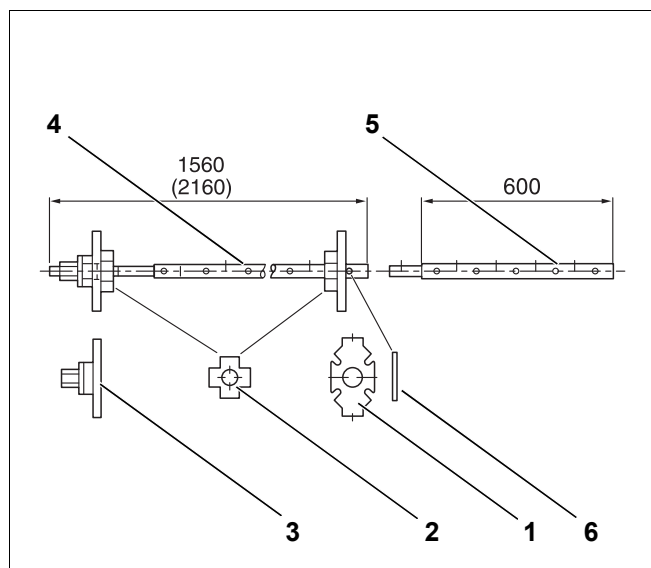
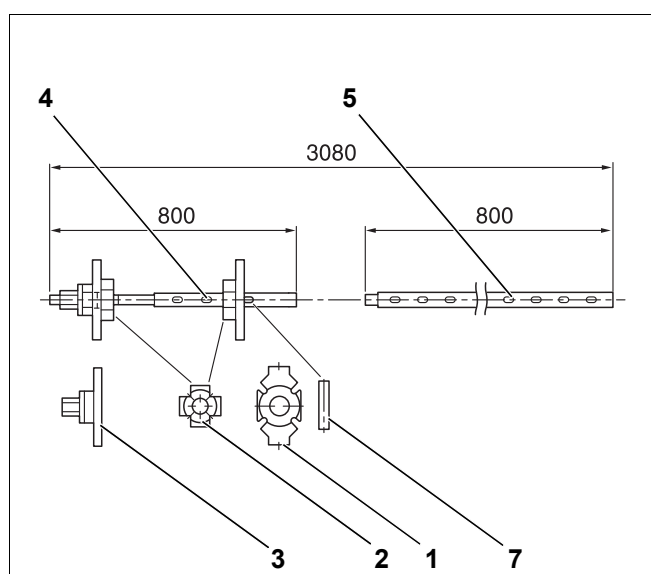
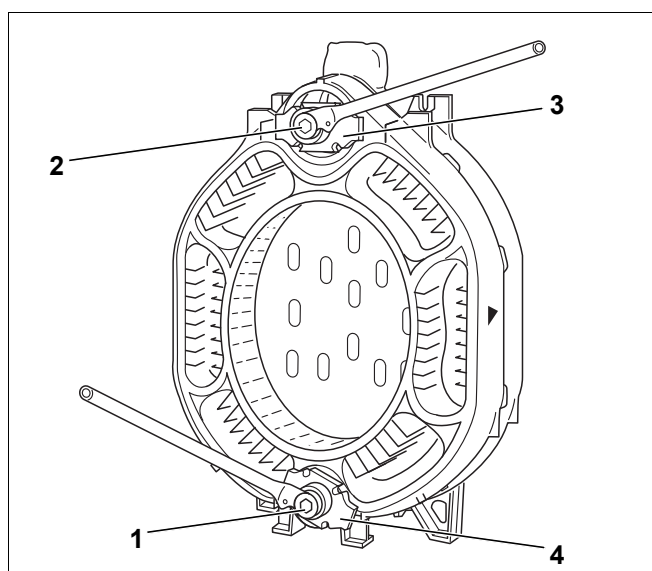

Fig. 1 Boiler compression tool size 2.2
Fig. 2 Boiler compression tool size 2.3
Fig. 14 Application of the boiler compression tool
- Boiler tensioning tool 2.2 (→ Fig. 1) or 2.3 (→ Fig. 2)
Legend for (Fig. 1) and (Fig. 2):
Now compress the boiler block section with the compression tool (→ Fig. 14).
Use only boiler compression tools size 2.2 or 2.3 (Fig. 1 or Fig. 2 and Fig. 14, [1] & [2]).
- Push the compression units (→ Fig. 14, [3] & [4]) onto the pull rods (Fig. 1 or Fig. 2, [4]).